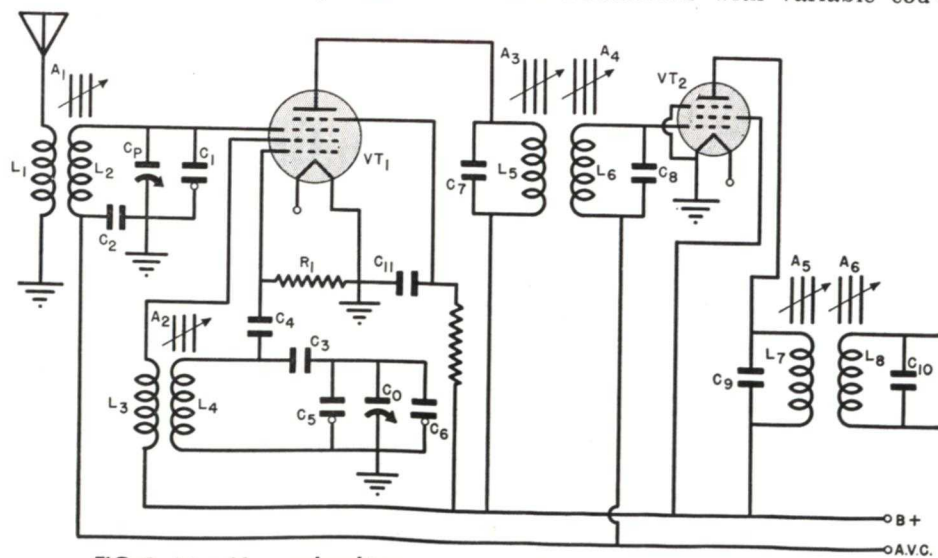

FIG. 9. Movable powdered-iron cores are used as the alignment adjusters here.
A number of receivers, such as the battery receiver of Fig. 9, use powdered iron adjustable cores in the coils to give alignment.
9. Why is rocking unnecessary for the circuit shown in Fig. 9?